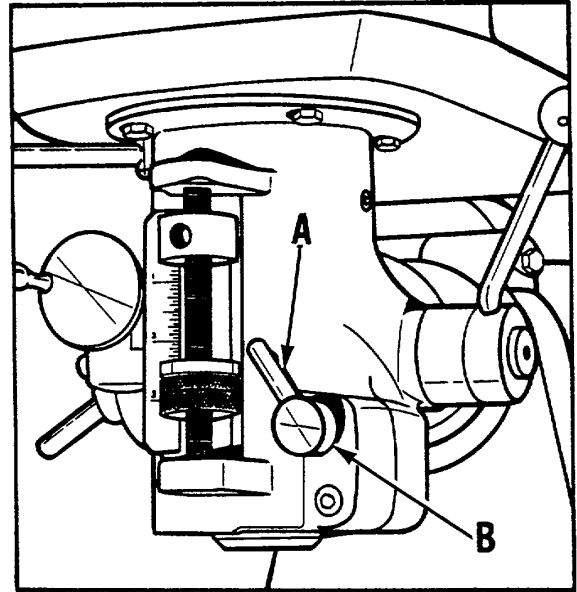

Fig. 10.
1. Unscrew and remove the lever (A) Fig. 10, from the hub (B). Then remove the hub.
4. Replace the hub (B) and lever (A) Fig. 10, and check to see if the quill locks properly when the quill locking lever (A) and hub (B) Fig. 10 are turned to the right.